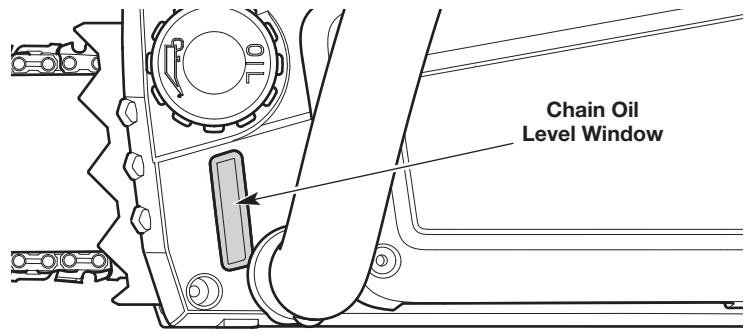

Fig. 36
1. **Set the unit on a flat, level surface. Position the unit upright (Fig. 36).**
2. Look into the chain oil level window. The oil level should fill the window at least halfway (Fig. 36). If the oil level is too low, add bar and chain oil. Refer to *Filling the Chain Oil Reservoir*.